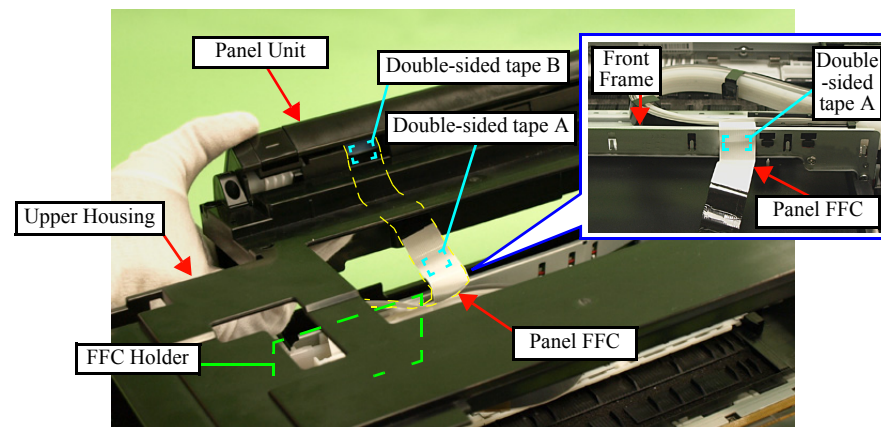

Figure 4-166. Removing the Upper Housing (4)
6. Peel off the double-sided tape A that secures the Panel FFC to the Front Frame, and lift the Upper Housing until the Panel FFC becomes detached from the FFC Holder. (See Fig. 4-166.)
7. Peel off the double-sided tape B that secures the Panel FFC to the Panel Unit. (See Fig. 4-166.)
- Secure the Panel FFC with double-sided tape to the Front Frame. (See Fig. 4-166.)